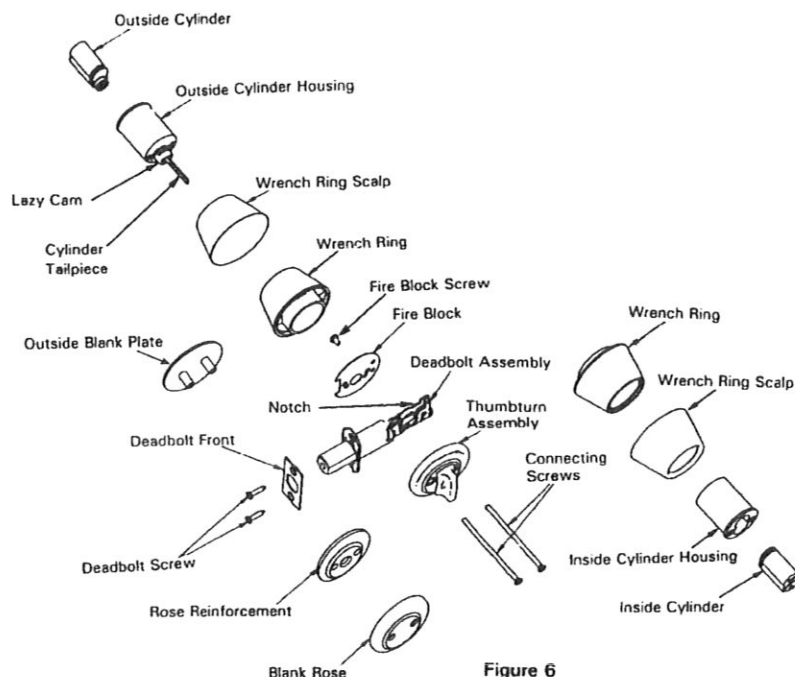

Figure 6
- Insert deadbolt unit into hole in door edge. (Make sure notched area is up. See Figure 6.) Fasten deadbolt to door with two attaching screws.